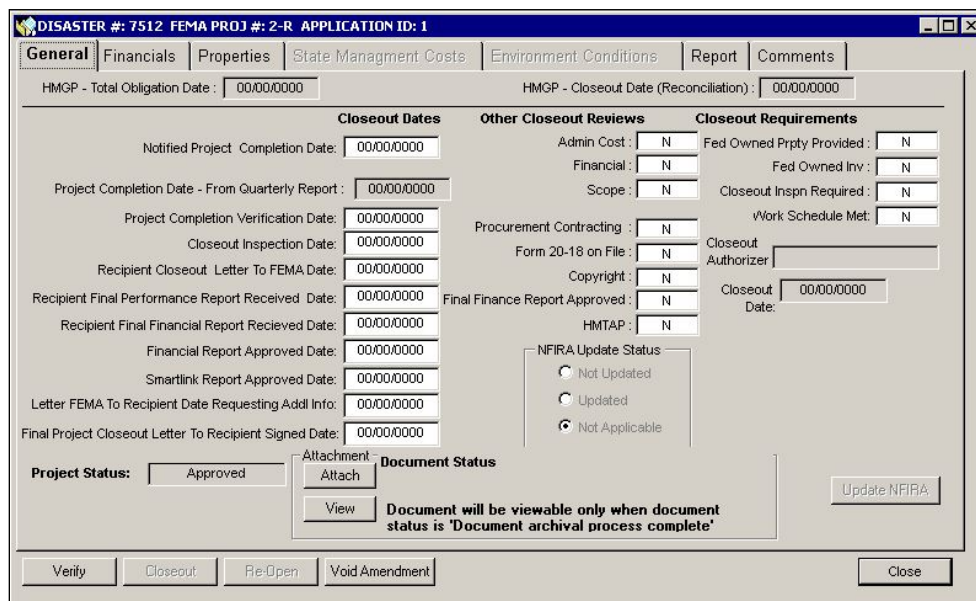

Figure 12-9: Void Amendment Button
- b. On the bottom part of the **General** tab, click the VOID AMENDMENT button (Figure 12-9).